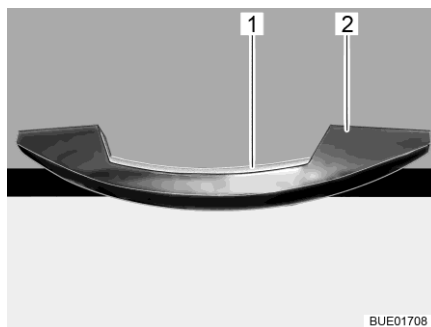
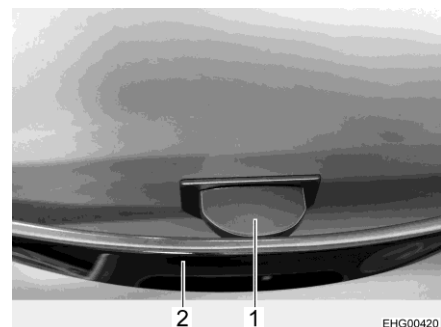

Fig. 69 Handle with unlocking bar (example)
Fig. 70 Handle with release tab
- Press and hold the unlocking bar (Fig. 69,1) or release tab (Fig. 70,1).
- Pull the handle (Fig. 69,2 or Fig. 70,2) until the furniture flap is open.